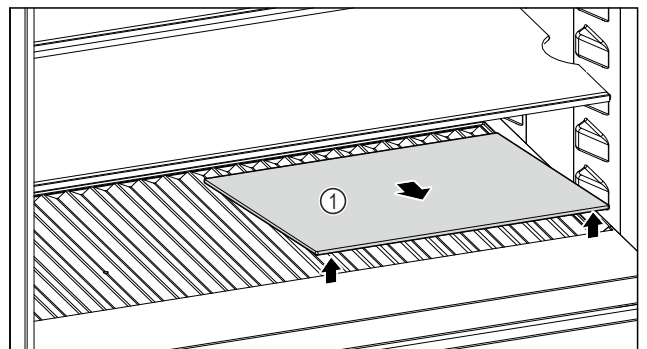

Fig. 166
- Lift the glass shelf Fig. 166 (1) at the front and remove.
- Store the glass shelf Fig. 166 (1) in a safe place outside the appliance.